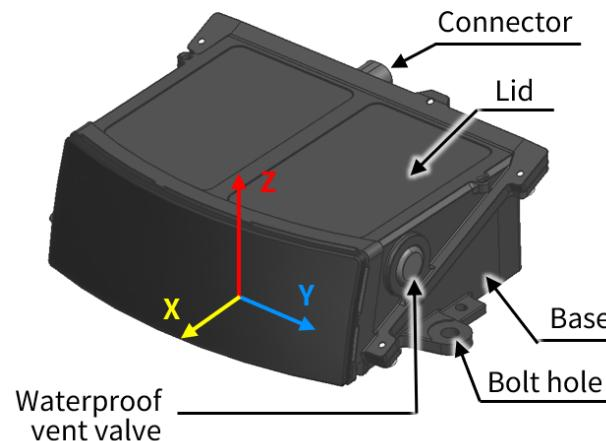

Figure 2. Coordinate system (isometric view)
The lidar's coordinate system is illustrated in Figure 2.
- To prevent loss of effective FOV, the mounting tolerances should be within  $\pm 5$  mm (position) and  $\pm 1$  deg (angularity) in the directions of X, Y, and Z axes of the vehicle coordinate system (see Figure 2. Coordinate system \(isometric view\)).